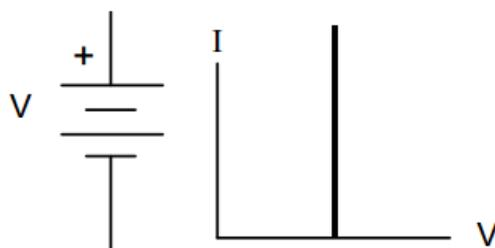
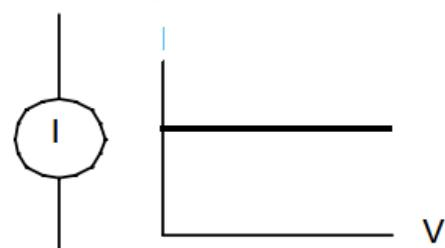

Figure 1
Figure 2
- Study a current source: A voltage source (Figure 1) such as a battery or power supply is inherently a device with a low internal resistance. It should provide a constant voltage for a wide range of currents. A current source (Figure 2) on the other hand should provide a constant current to a wide range of load resistances.